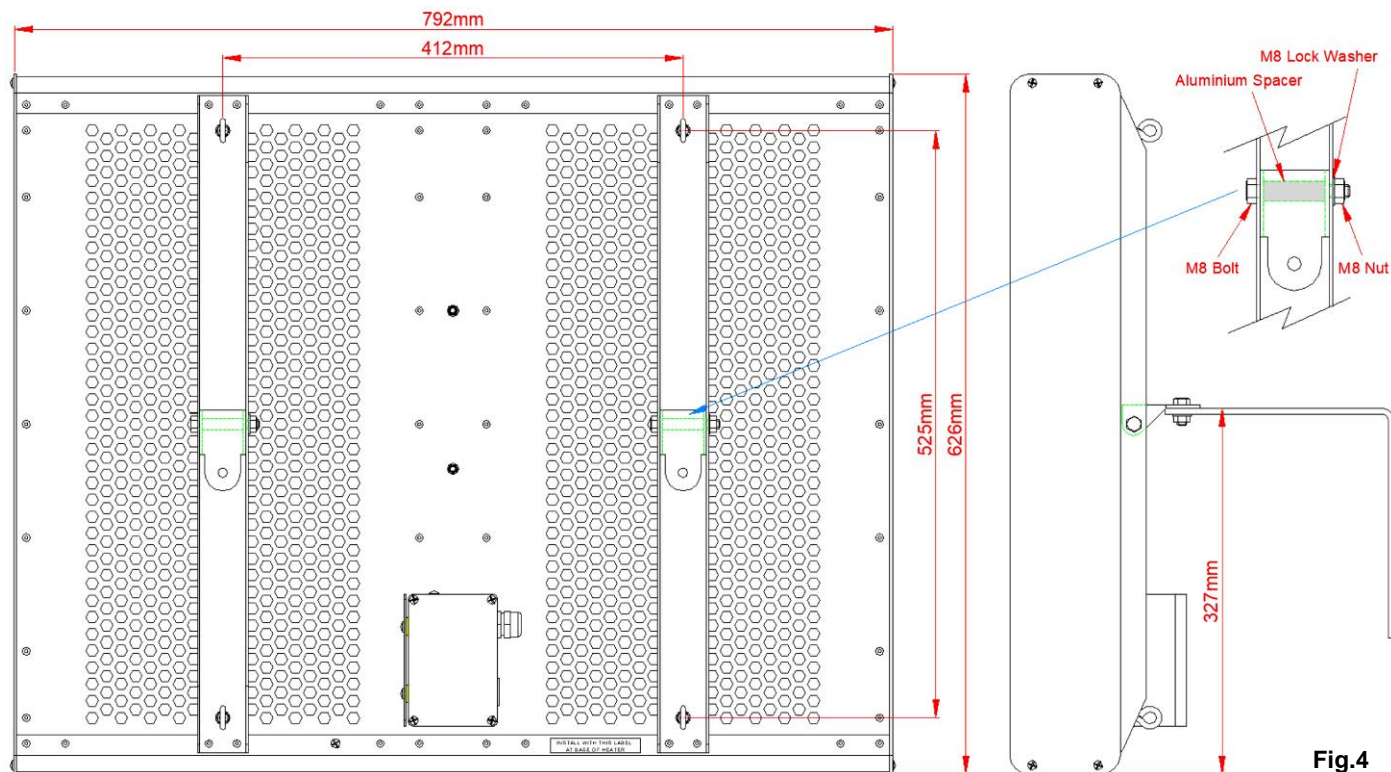

Fig.4
3.1.1 Dimensional position of the hanging hooks is shown on Fig.4 (to the far right).
3.2.1 Fit the two swivel brackets ensuring the aluminium spacer and lock washer are in the correct position. (see Fig.4 to the far right)